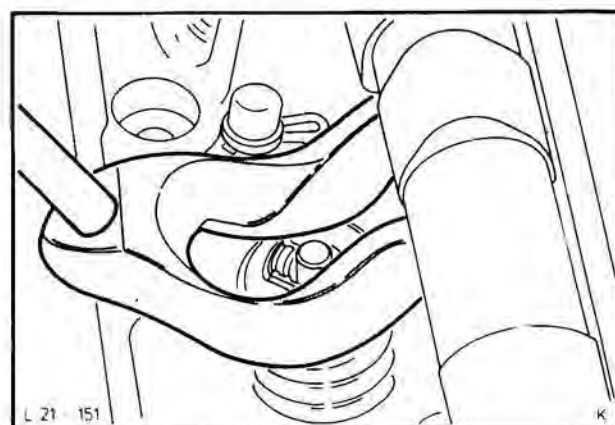

Fig. 160. Fitting of valve springs, retainers and collets, with Special Tool 21-005
16. Fit valve springs and retainers, compress with Special Tool 21-005 and fit valve collets, Fig. 160. Insert cam followers.